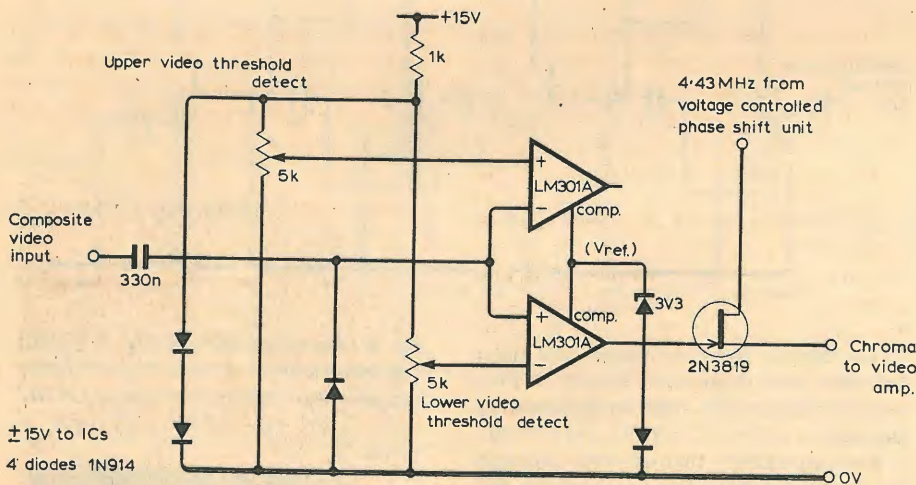

Fig. 12. Chroma threshold gate.
**Threshold gate.** To prevent colour information from entering the black level and synchronizing pulse region, and also the peak white region, a threshold detector is used, as shown in Fig. 12. Composite video is fed to the level detector and the two threshold levels are set on the potentiometers. The output controls an f.e.t. switch which gates-in the subcarrier in the video regions.